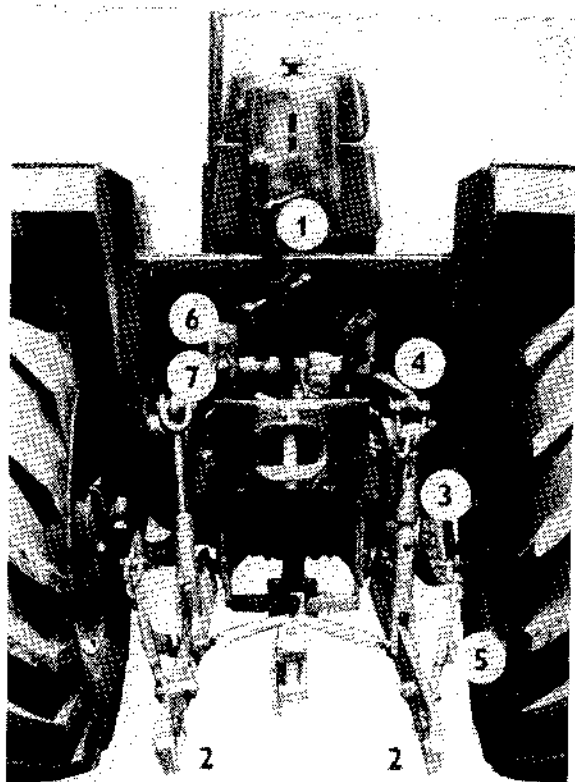
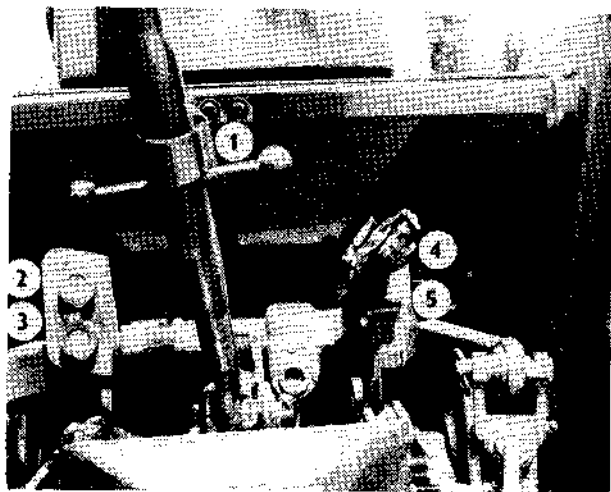
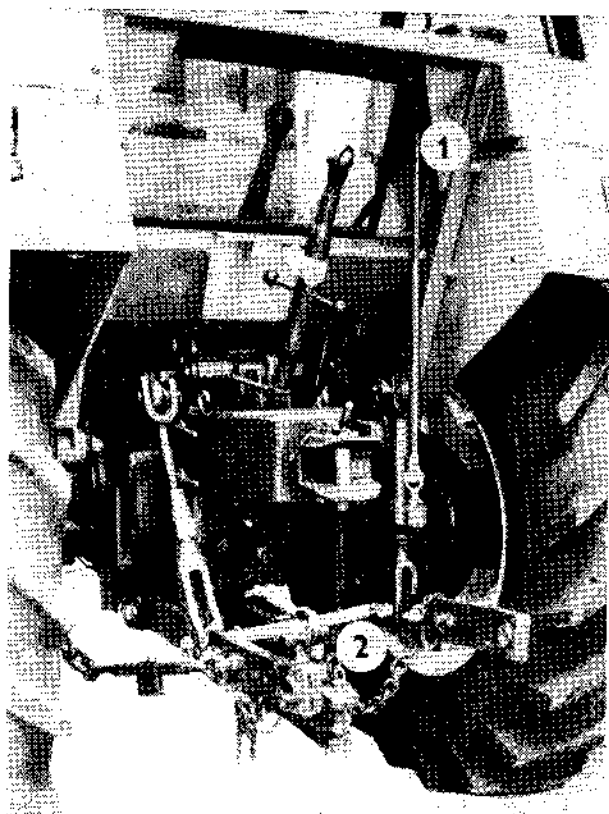

Fig. 24
Fig. 25
Fig. 26
- A similar target designation can be found on the quick coupler (Fig. 24/6, 7), it designates pressure oil supply upon raising.
supplies pressure oil to machines and implements having their own hydraulic cylinders outside the tractor, both single-acting (hydraulically controlled hoes etc.) and double-acting (loaders, cutter bars, hydromotors etc.). This circuit is provided with two outlets having each a quick coupler (quick coupling device) at its end (Fig. 24/6, 7, 25/2, 3).
- outlet 1 — is attached (coupled with) to single-acting cylinders (Fig. 24/6, 25/2),
- outlet 2 — is attached (coupled with) to double-acting cylinders (Fig. 24/7, 25/3).
The above cylinder is connected with outlet „1” (Fig. 24/6 and 25/2) and „2” (Fig. 24/7 and 25/3) in such a way that outlet „1” is intended for pressure oil when raising and outlet „2” when lowering. The flow direction is designated on the hydraulic cover by arrows.
The three-point hitch represents an outer coupling device serving for attaching agricultural machines and implements. It consists of an upper link being longitudinally adjustable (Fig. 24/1) and two lower links (Fig. 24/2) which are attached by a RH and LH strut (Fig. 24/3) to the hydraulic lifting mechanism arms (Fig. 24/4). The RH strut is longitudinally adjustable — without disassembling — by means of a crank, bolt and nut, whereby RH lower link is vertically adjustable. The upper link as well as lower links
are provided with ball joints and openings enabling lower links ends to (sway) swing by  $\pm 125$  mm. By changing the length of the tension nut (Fig. 24/5), a lower links sway can be adjusted within the whole hydraulic mechanism lift. As long as the tractor is without any attached (coupled) implement, the upper link can be hanged onto a flexible holder (Fig. 25/1). The tractor provided with a safety cab can be optionally equipped with a longitudinally adjustable RH strut (from the driver's seat) by means of a crank located in the cab (Fig. 26/1). When working without implements, it is necessary to couple lower links by aprings (Fig. 26/2).